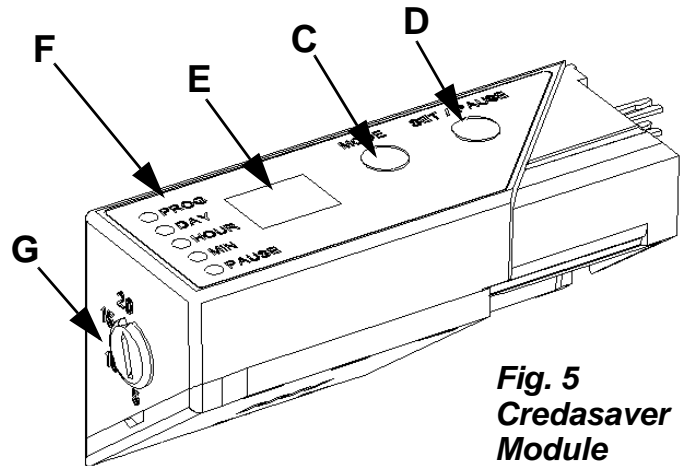

Fig. 5
4. Adjust the thermostat knob (G) Fig. 5 on the CREDASAVER to the desired Setback Temperature.
5. Switch on the heater. Wait until the display (E) Fig. 5 appears with two horizontal lines.
When installed for the first time or after a prolonged period of power failure, the Creda Saver will lose its settings. This is indicated by the display (E) Fig. 5 showing two horizontal lines.
The MODE-key (C) Fig. 5 is used for choosing adjustment mode, e.g Programme Day, Hour and Minutes.
The SET/PAUSE- key (D) Fig. 5 is used for altering the settings within each mode.
1. Press the MODE key once. The PROG red LED (F) Fig. 5 will light up with the first programme 'P0'.
4. Press the MODE key once more. The DAY (F) LED will light up and indicate that a weekday may be chosen.